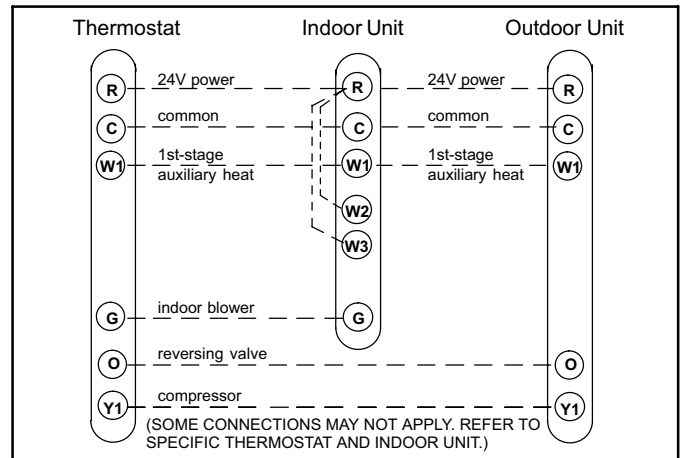

Figure 11. Outdoor Unit and Blower Unit Thermostat Designations
4. Install low voltage wiring from outdoor to indoor unit and from thermostat to indoor unit. See figures 11 and 12.